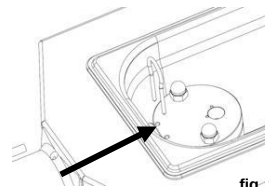

fig. 15
- Slide the whipping assembly into the housing, turning lightly. Turn and move the whipping pipe back and forth until the locking device can be inserted all the way (fig. 15).